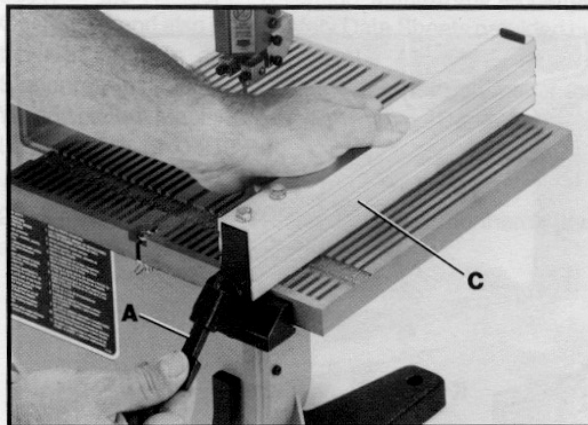

Fig. 9
2. Lower the front of rip fence (C) Fig. 9, against the table and push down on locking lever (A). **NOTE:** Clamping action on the rip fence (C) Fig. 9, can be tightened or loosened by lifting locking lever (A) and rotating lever clockwise or counterclockwise as necessary until firm clamping action is accomplished. Rip fence (C) can be positioned either to the right or left of the saw blade.